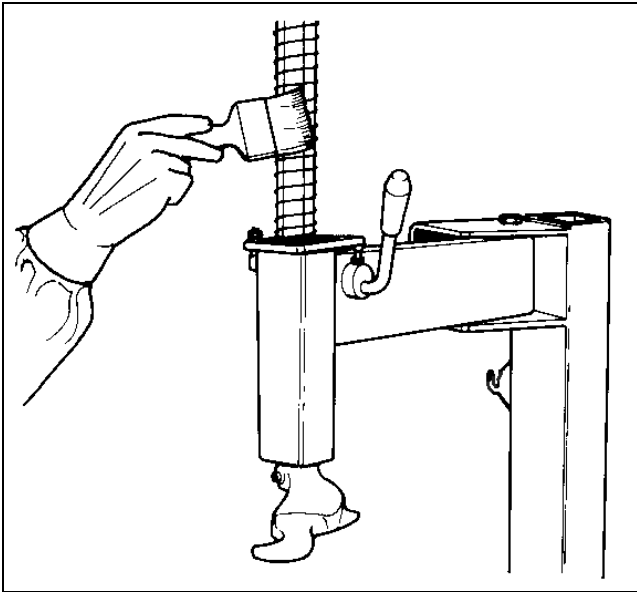

Fig.27
A. Periodically clean the vertical hexagonal rod with nonflammable liquid detergent. After this immediately lubricate with oil (Fig.27).